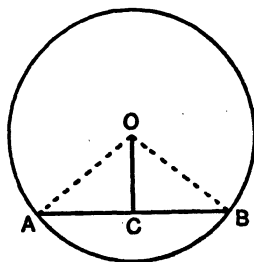

FIG. 36. OC AT RIGHT ANGLES TO CORD A B
I. The children draw a circle and any chord in it. They join the centre of the circle to the mid-point of the chord and discover that OC is at right angles to AB, Fig. 36.